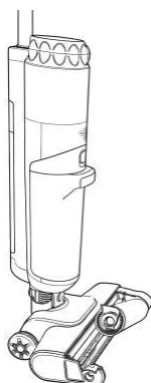

Fig. 10
1. Align the groove on the right side of the roller brush with the guide in the floor brush (Fig. 10).